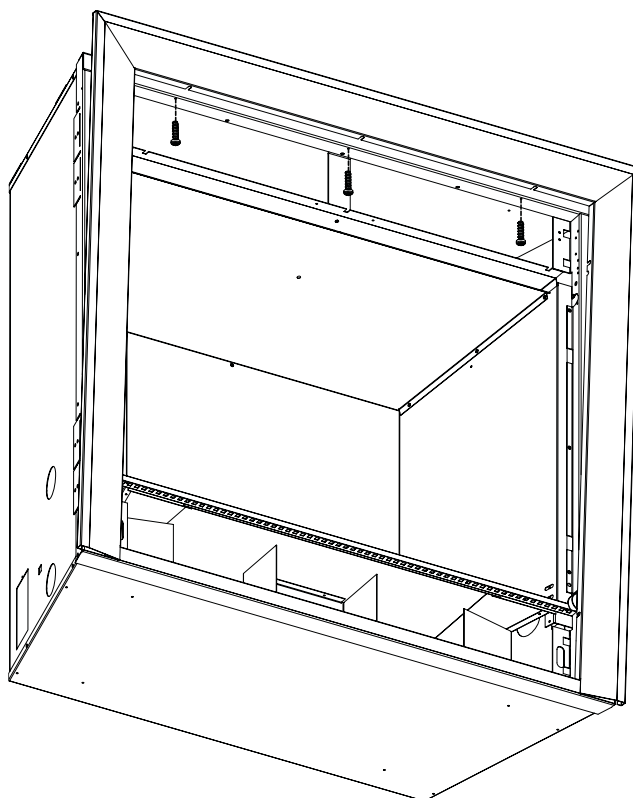

Figure 39
7. Secure the top trim piece to unit by installing supplied screws. *See Figure 39.*